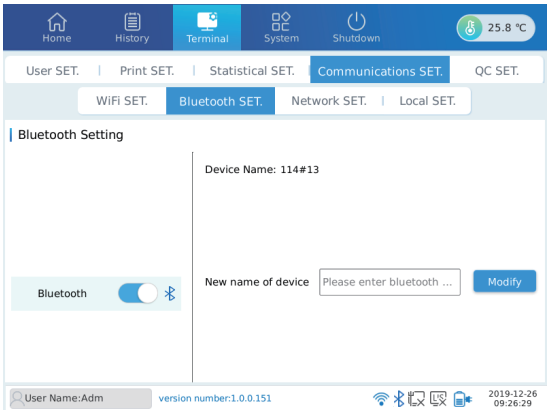

Fig. 6.23 Bluetooth Setting
- 1) Click “Bluetooth SET.” and then turn on Bluetooth. The interface will display the Bluetooth device name of the local instrument. You can proceed Bluetooth setting within the communications setting as Fig.6.23 below.
- 2) You can modify the name of the Bluetooth device by the interface of Bluetooth setting refer to Fig 6.23. Enter a new name of device at the edit box and click “Modify” button, it will take effect after turn on the Bluetooth again.